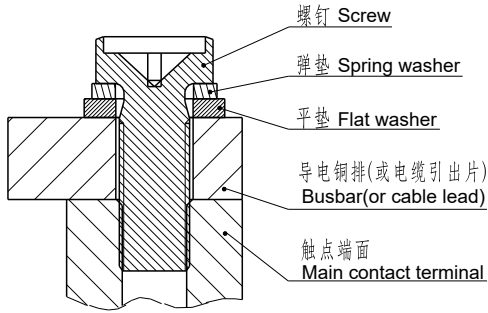

图1(Fig1)
- 当产品使用1个及多个导电铜排连接时，请确保导电铜排与触点端面紧密贴合（多个铜排需确保大电流的导电铜排最贴近触点端面，小电流的导电铜排其次），然后是平垫圈、弹簧垫圈、螺钉。不正确的连接顺序可能造成严重过热，参考下图1：
When the product is connected with one or more conductive copper bars, please ensure that the conductive busbars closely fit the contact terminal surface (The conductive copper bars with high current must be close to the contact terminal surface if there are multiple copper bars and then conductive busbars with low current), followed by flat washers, spring washers and screws.Incorrect connection sequence perhaps give rise to severe overheating. Refer to Figure 1 as follows: